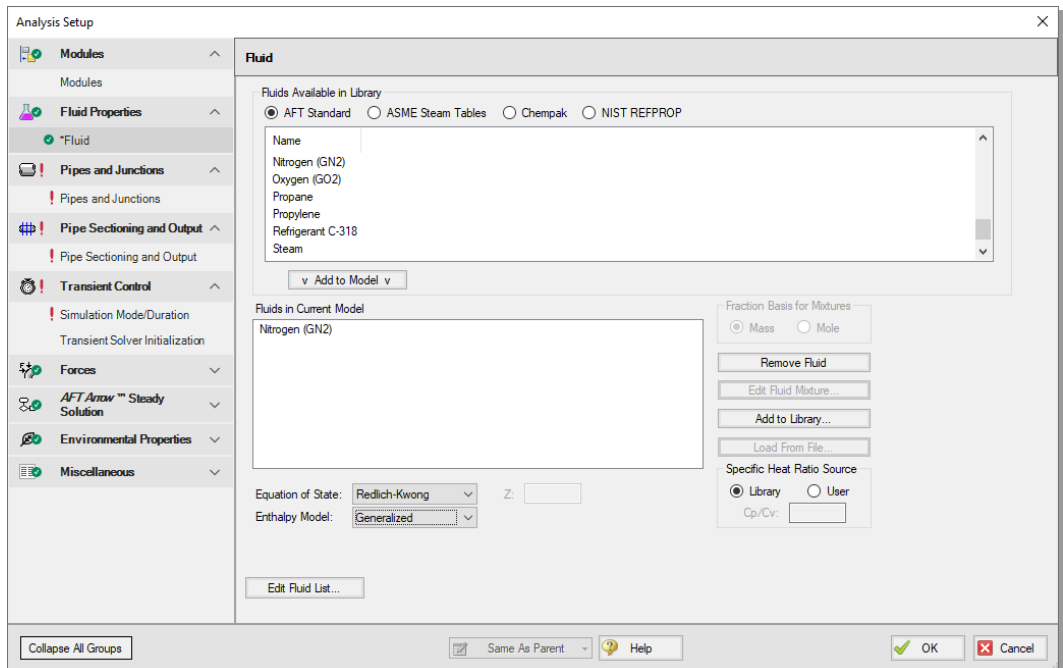

Figure 2.15 The Fluid panel is where you specify the fluid
- **Select the Fluid item** to open the Fluid panel (Figure 2.15).